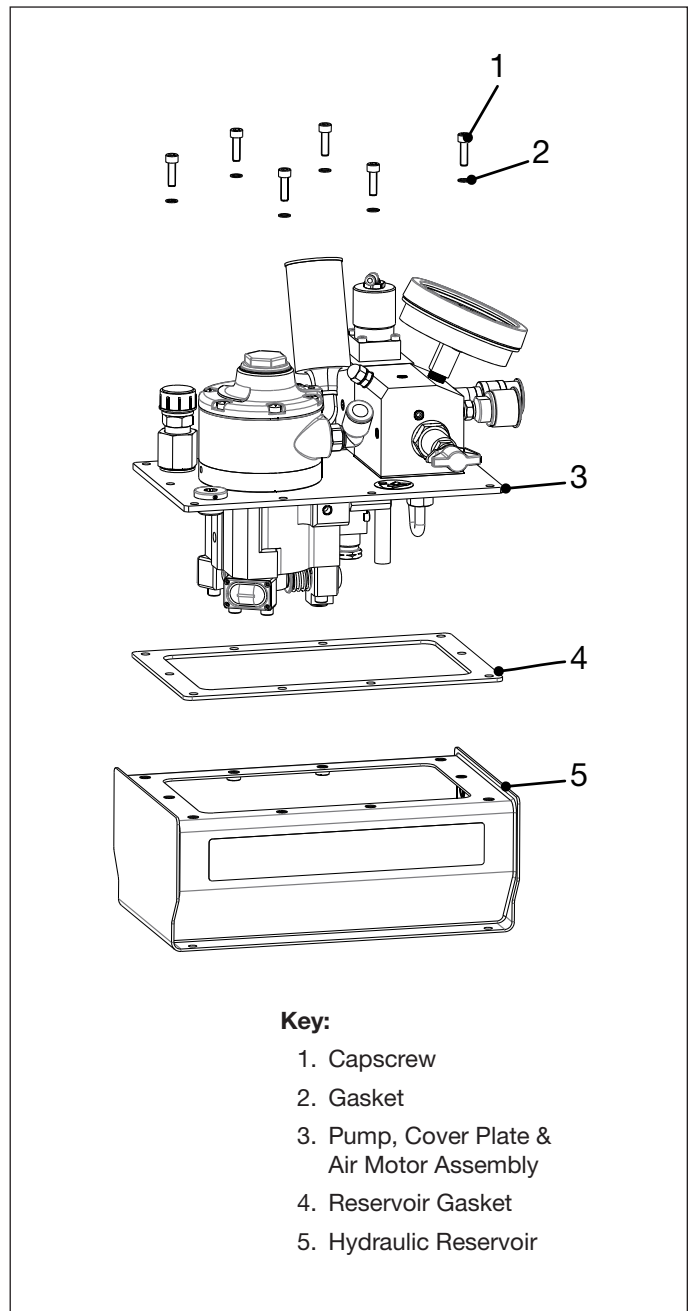

Figure 14: Reservoir Inspection & Cleaning (View 2 of 2)
5. Remove the remaining six capscrews and washers securing the pump cover plate. Lift the cover plate, hydraulic control valve, air motor and pump element off of the reservoir as an assembly. See Figure 14.